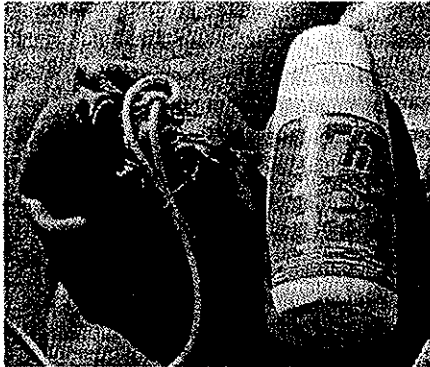

Fig. 1. Cloth sack filled with powdered chlorine is ready to be lowered into the well.
2. Place the required amount of chemical in a weighted cloth sack (fig. 1) or in a section of perforated pipe that has been capped on both